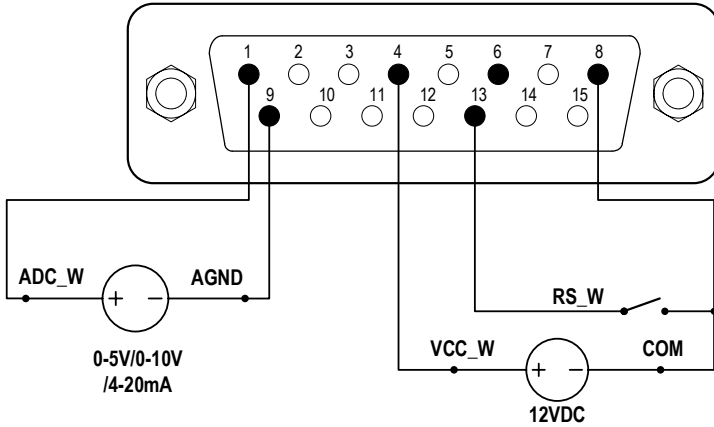

Figure 10. DB15 Wiring with External 12VDC Power Source
- 1) Switch the power off. Wire the DB15 connector as shown on Figure 10 or Figure 11, and connect it to the DB15 port on the rear of the pump.